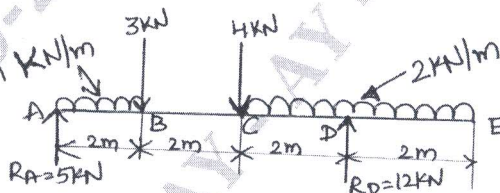

Fig. Q5 (b)
b. For the beam shown in Fig. Q5 (b) below. Draw the SFD and BMD. Locate the point of contraflexure, if any.